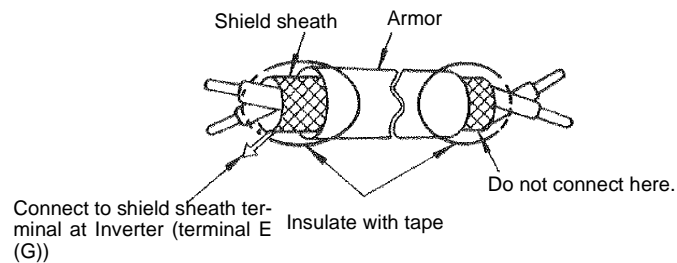

Fig 2.18 Processing the Ends of Twisted-pair Cables
- Use twisted-pair or shielded twisted-pair cables for control circuits to prevent operating faults. Process cable ends as shown in *Fig 2.18*.
- Connect the shield wire to terminal E (G).